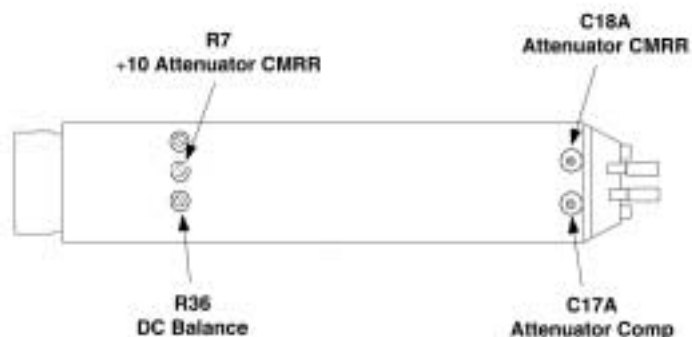

Figure 10. Probe Tip Adjustment Locations
7. Adjust **DC Bal** (R36) on the probe tip (Figure 10) to obtain a DMM reading of 0 V $\pm$ 10 mV.
12. Adjust **+10 CMRR** (R7) for minimum amplitude. (See Figure 10 for location.)
8. Adjust **Attenuator Comp** (C17A) for a flattop waveform. See Figure 10 for adjustment location.